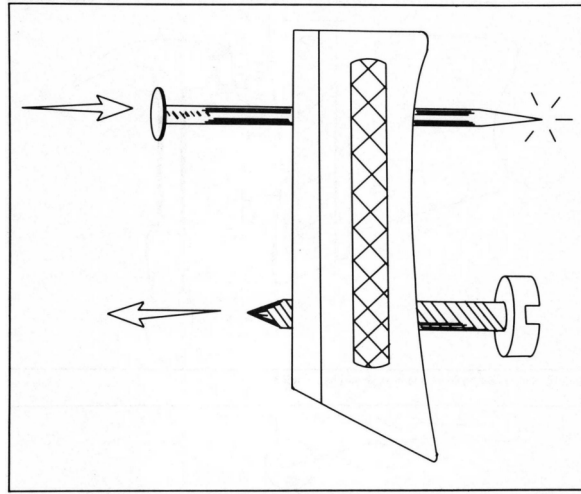

Fig. 6-16. Top: Piercing pad with scribe. Bottom: Pushing screw through pierced hole.
6. Put a drop of oil inside each hole in the bottom of the pad to ease the scribe through the rubber and to keep the rubber from tearing. Push the scribe to pierce the face of the pad (Fig. 6-16). Oil the screws and push them through the face of the pad, but leave the heads sticking out. They will be used for marking screw positions.